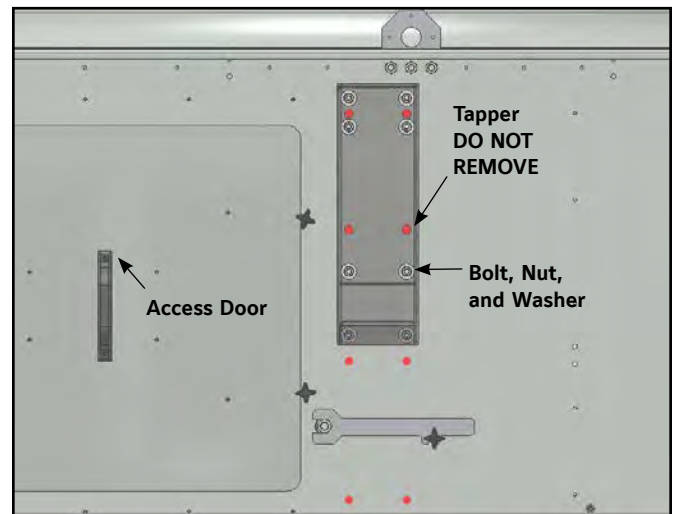

Figure 18b. Davit Support Detail
1. Verify the davit support is factory installed next to the access door. If not installed, remove the bolts next to the access door (refer to Figure 18b). DO NOT REMOVE TAPPERS. Secure the davit support by re-installing the bolts.